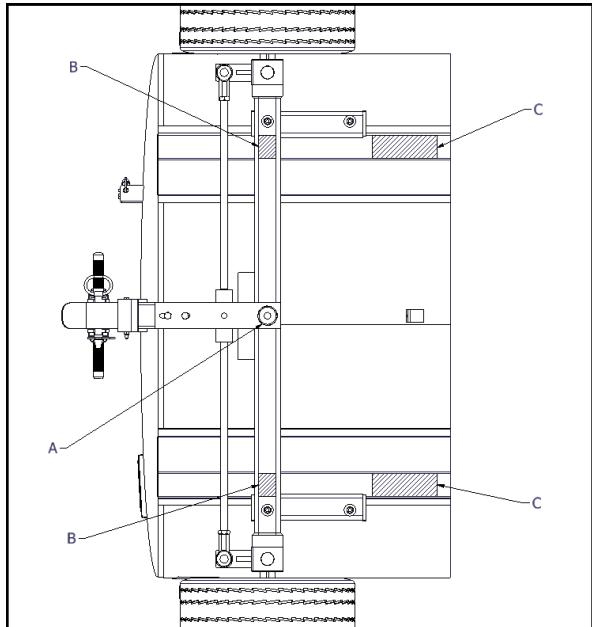

Figure 4-11 Lift Points
To remove the entire Rear Undercarriage assembly, the equipment must have the back end raised. See Sections 4.12, and 4.13 with Figure 4-11.
- a. Raise equipment with suitable maintenance jack (see Figure 4-11 reference arrow A for jack placement) and allow for 2-inches of space between the wheels and the ground.
- b. Place cribbing under tank skids to safely support the equipment. (see Figure 4-11, reference points labeled with a C).